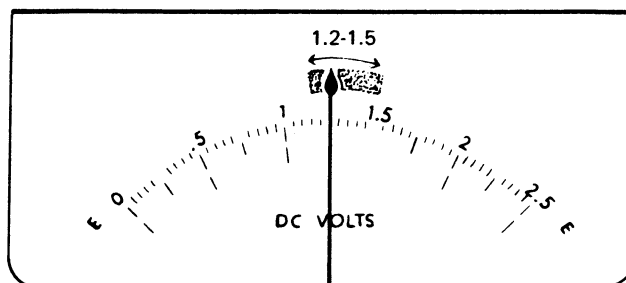

FIG. 3.14 FLASHGUN BATTERY SPECIFICATION
2. With the toggle switch in the proper position (the switch reverses polarity), the indicator in the meter should move up to the range shown in Figure 3-14 (1.2 vdc to 1.5 vdc).